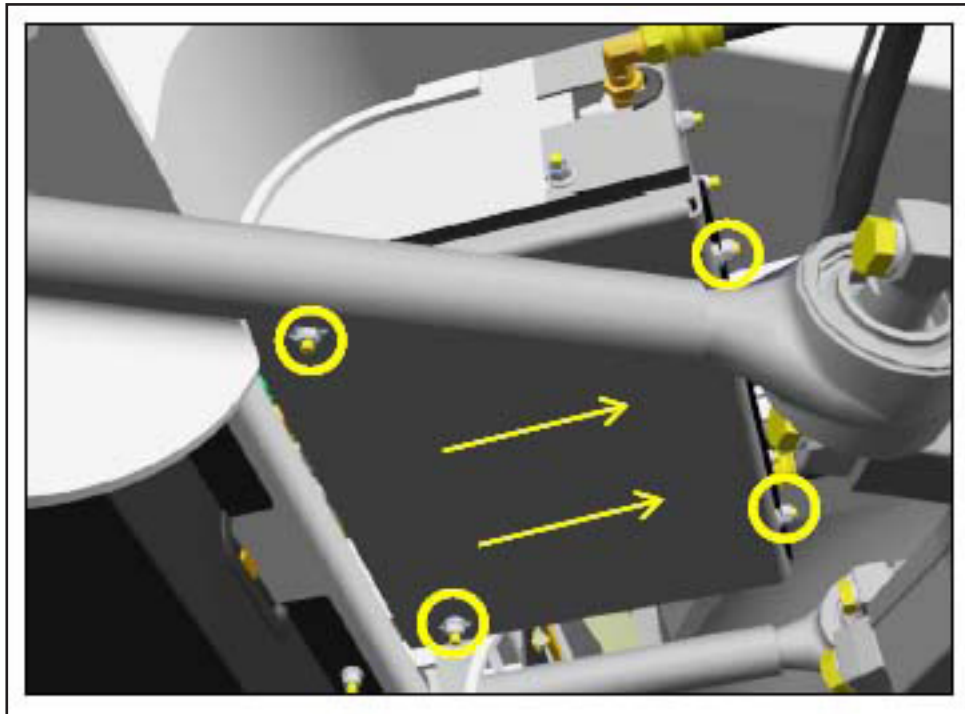

Figure 5 - Brake Valve Cover Removal to Access the Rear Harnesses
- 1.6. To access the rear harnesses, remove and retain the four M8 hex nuts and slide out the brake valve cover (see Figure 5).